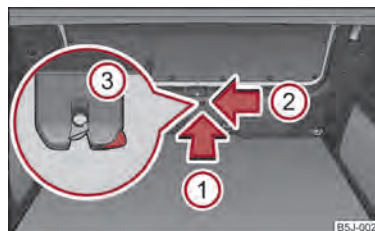

Fig. 16 Emergency unlocking of the boot lid
- Insert a screwdriver or similar tool into the opening in the trim in the direction of arrow ① ⇒ fig. 16 to the stop.
- Unlock the lock ③ under the trim in the direction of arrow ②.